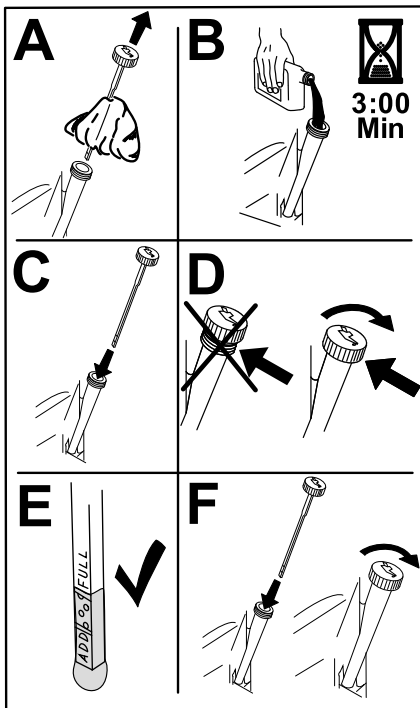

Figure 38
5. Slowly pour approximately 80% of the specified oil into the filler tube and slowly add the additional oil to bring it to the **Full** mark (Figure 38).
3. Fill the crankcase with the proper type of new oil (Figure 38).